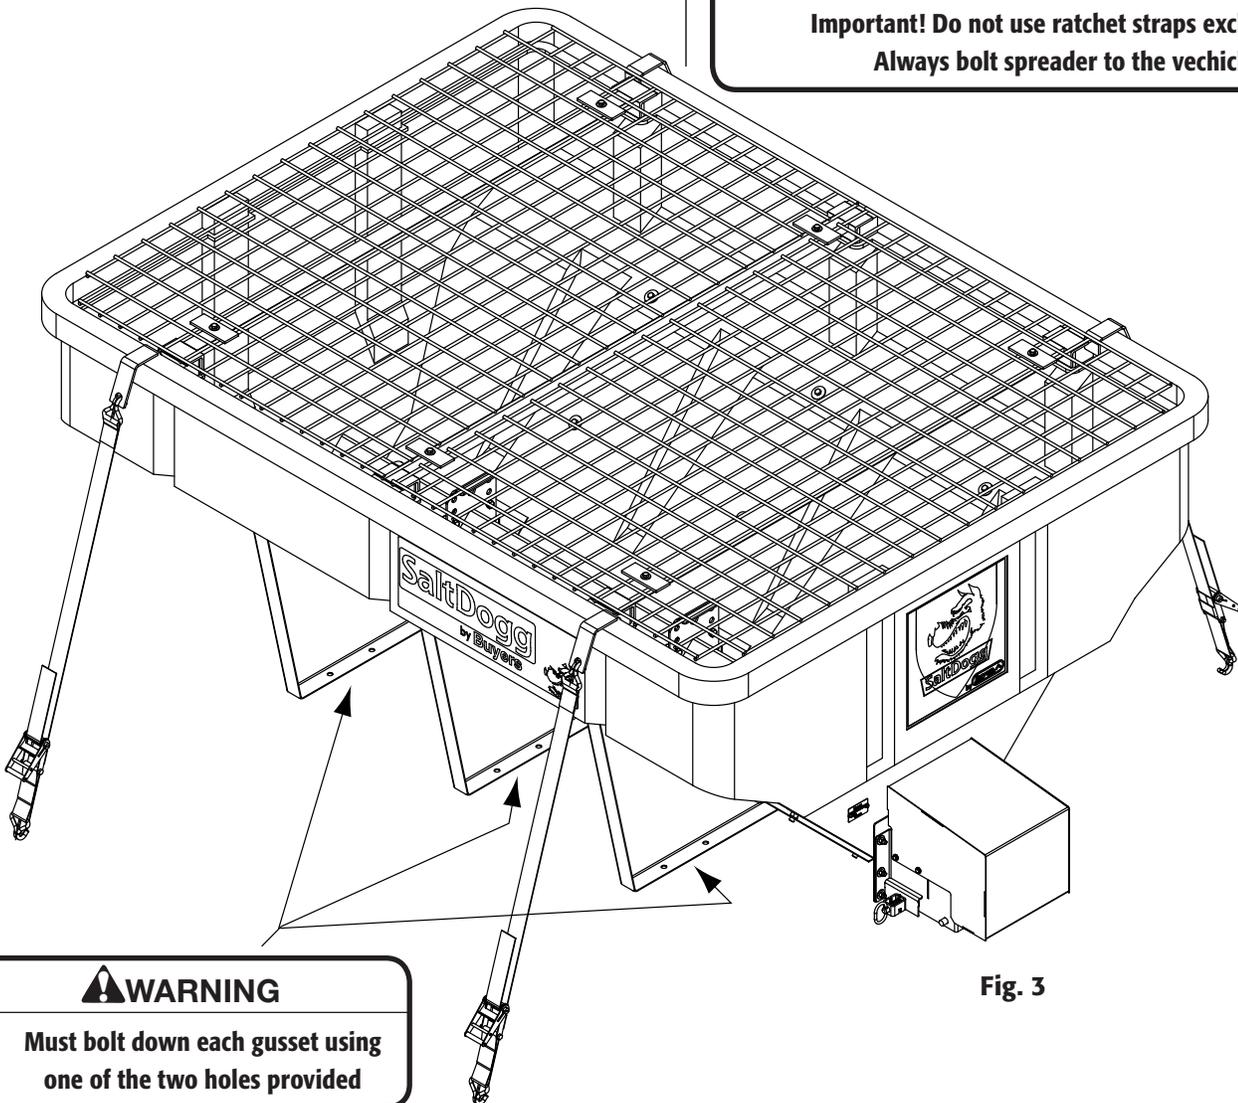

Fig. 3
G. Attach tie-down hooks to the hopper. Secure spreader using four ratchet straps as shown. Tighten straps evenly to secure spreader in the middle of the truck box (Fig.3). *Inspect straps and hardware after each time spreader is loaded. Tighten straps and hardware if necessary.*